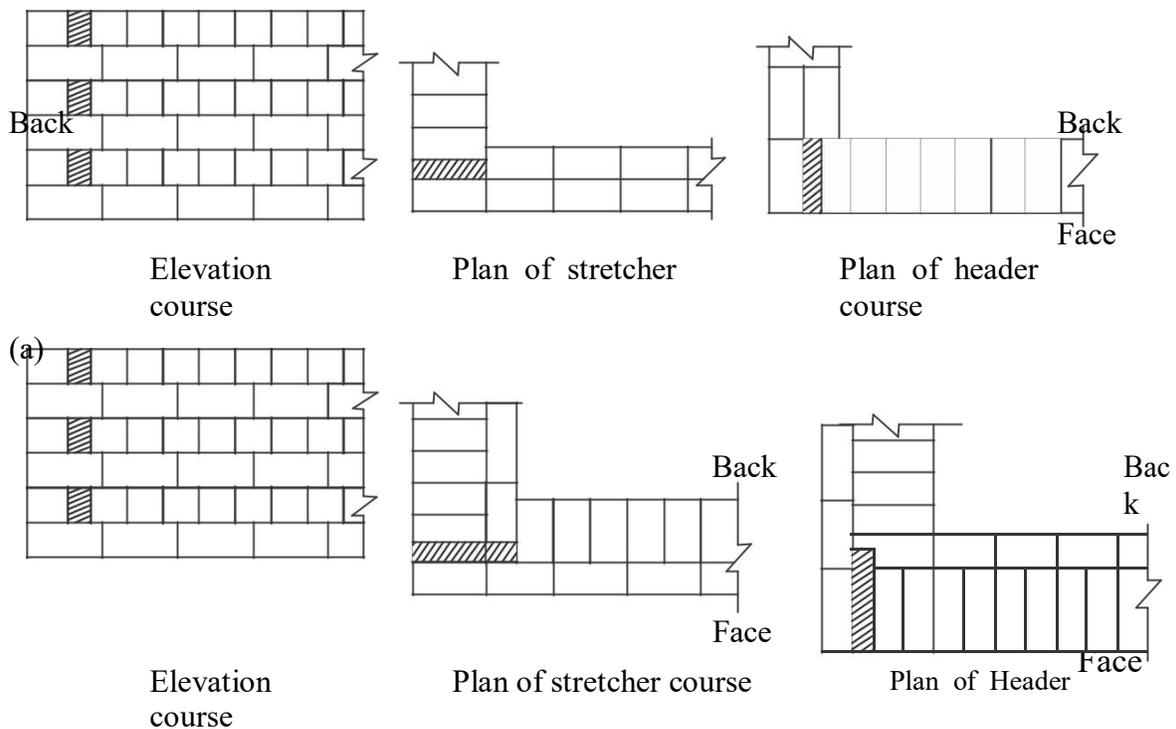

Fig. 2.6.3 English bond
**English Bond:** In this alternate courses consist of headers and stretchers. This is considered to be the strongest bond. Hence it is commonly used bond for the walls of all thicknesses. To break continuity of vertical joints a brick is cut lengthwise into two halves and used in the beginning and end of a wall after first header. This is called queen closer. Figure 2.6.3 shows typical one brick and one and half brick thick wall with English bond.